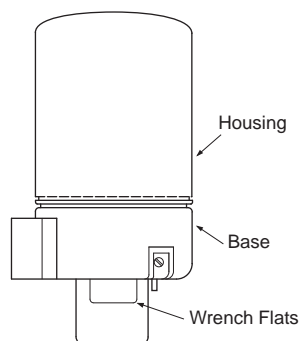

Figure-4 Housing and Base Location.
**Caution:** Do not twist or exert any force on the actuator housing during installation. Either turn the base by hand or, if necessary, use a 1-5/8" open-ended wrench (TOOL-37) on the flats provided on the actuator base or the valve body mounting nut (refer to Figure-4).
**Caution:** Do not twist or exert any force on the actuator housing during installation. Either turn the base by hand or, if necessary, use a 1-5/8" open-ended wrench (TOOL-37) on the flats provided on the actuator base, or on the valve body mounting nut. Refer to Figure-4.